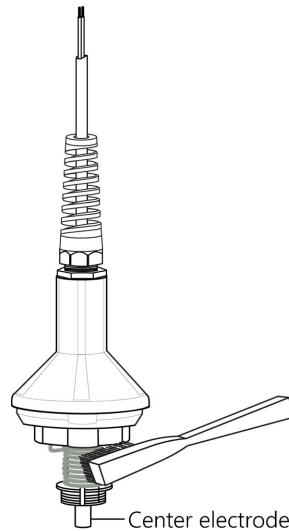

Figure 8-2. Using toothbrush to clean sensor
5. To clean, immerse the top part of the sensor in distilled white vinegar (3% acetic acid) for about 30 minutes. If vinegar is unavailable, use a soft toothbrush, automatic dishwasher detergent, and clean water to clean the cathode, anode, and plastic without touching the center electrode; see Figure 8-2 (p. 11). Rinse all components thoroughly with clean water after cleaning.